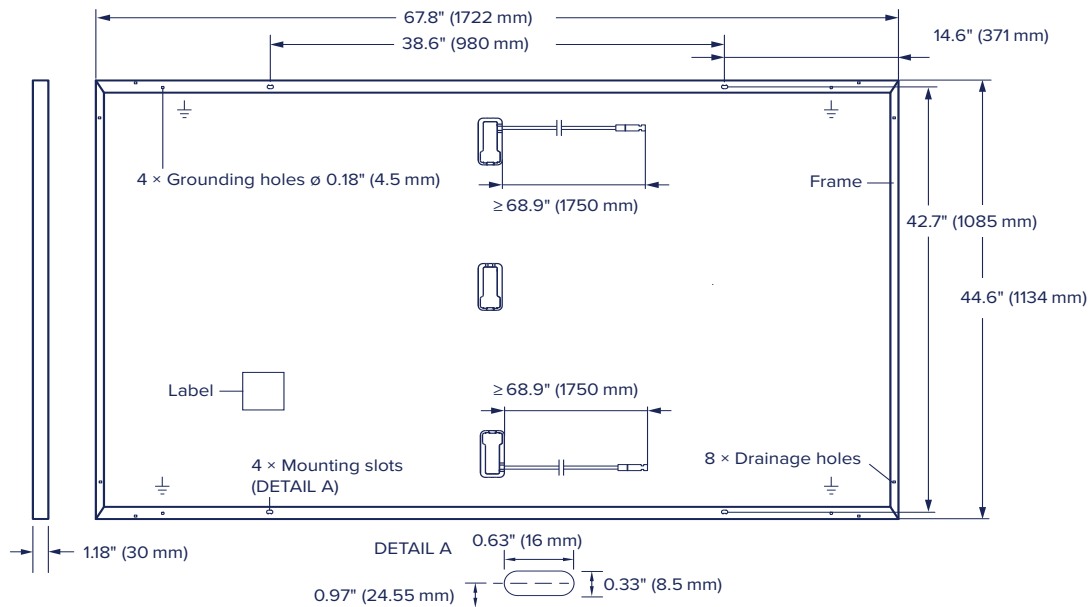

Fig. 1: External dimensions and components for Q.TRON M-G2+, Q.TRON BLK M-G2+, Q.TRON BLK M-G2.C+, Q.TRON BLK M-G2.F+, Q.TRON BLK M-G2.H+
- Clamp position: center of contact area in the axis of the mounting slots (Detail A, Fig.1) or closer to the hollow chamber.